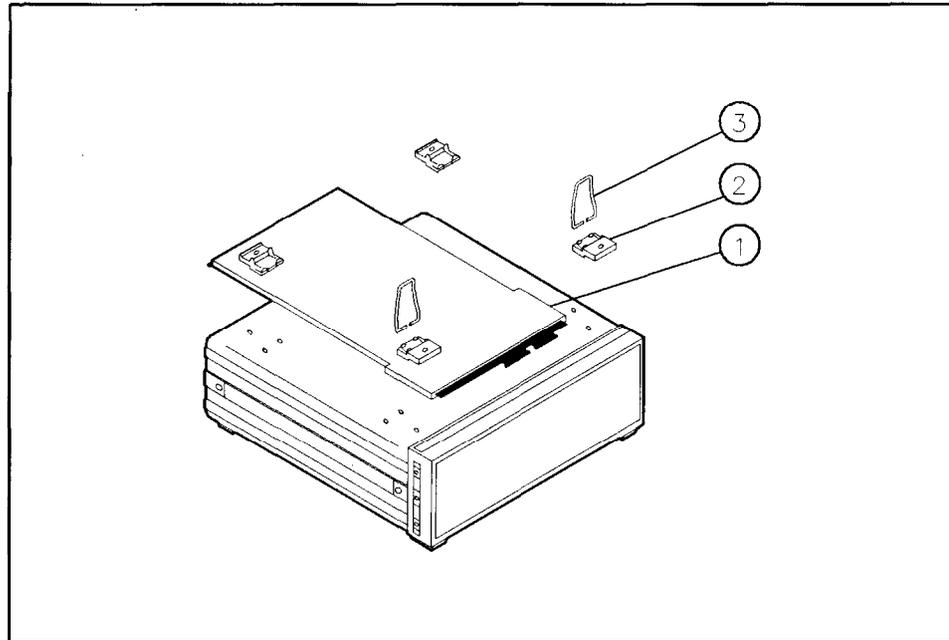

Figure 2-9. Removing the Information-Card Tray
5. The information-card tray located on the bottom of the RF-Display section requires a space of approximately 2 cm below the instrument when rack mounting. See **callout 1** in Figure 2-9. (No filler strip is provided.) If you wish to remove the information-card tray, remove the feet and tilt stands. See **callouts 2 and 3** in Figure 2-9.